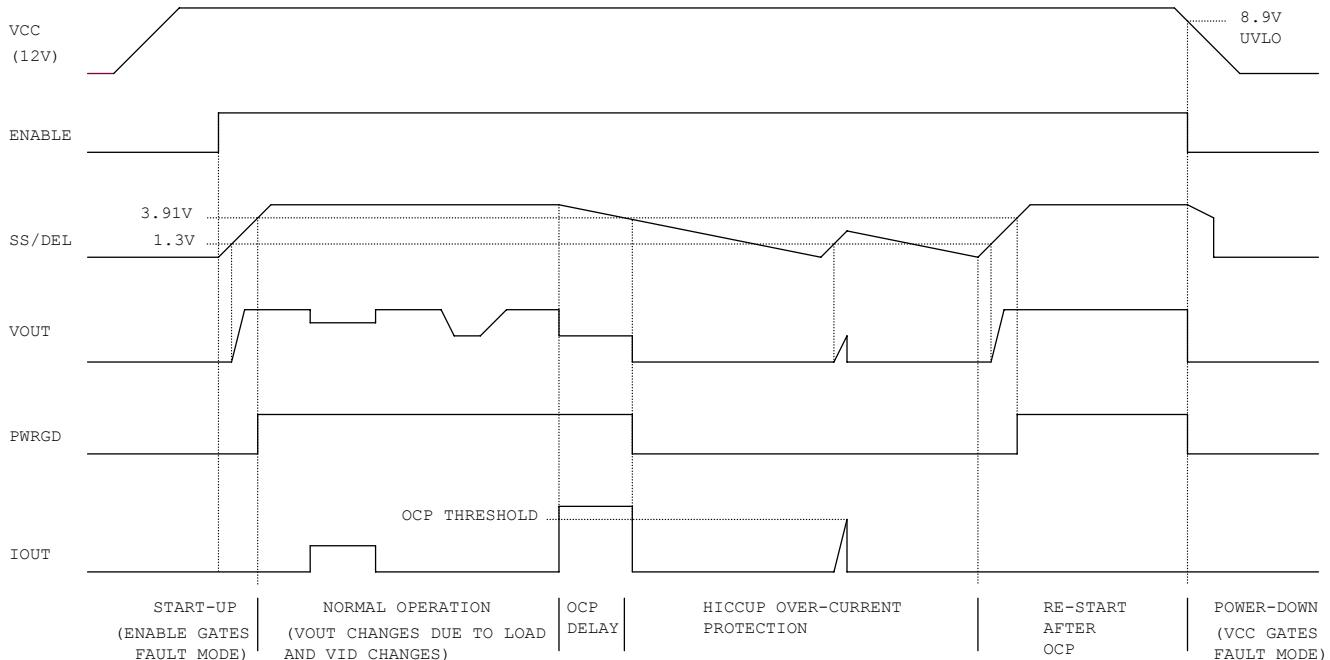

Figure 10. Operating Waveforms
Figure 10 depicts the various operating modes as controlled by the SS/DEL function. If there is no fault, the SS/DEL pin will begin to be charged. The error amplifier output is clamped low until SS/DEL reaches 1.3V. The error amplifier will then regulate the converter's output voltage to match the SS/DEL voltage less the 1.3V offset until it reaches the level determined by the VID inputs. The SS/DEL voltage continues to increase until it rises above 3.91V and allows the PWRGD signal to be asserted. SS/DEL finally settles at 4V, indicating the end of the soft start.
The SS/DEL pin voltage controls the slew rate of the converter output voltage, as shown in Figure 10. After the ENABLE pin voltage rises above 0.6V, there is a soft-start delay time tssDEL, after which the error amplifier output is released to allow the soft start. The soft start time tss represents the time during which converter voltage rises from zero to Vo. tss can be programmed by an external capacitor, which is determined by Equation (1).